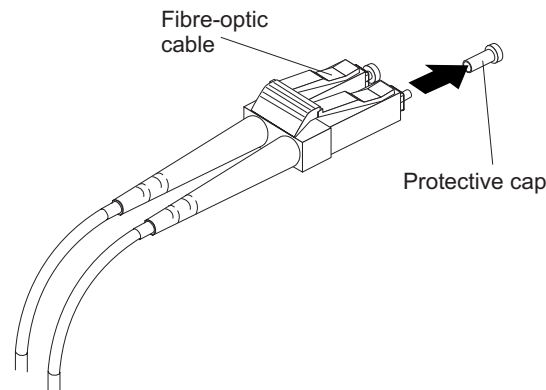

Figure 28. Removing fiber-optic cable protective caps
3. Remove the two protective caps from one end of the LC-LC cable, as shown in Figure 28. Save the protective caps for future use.